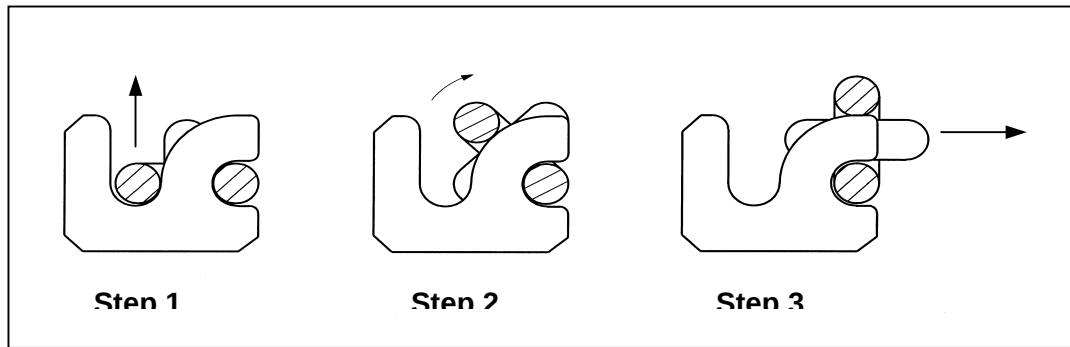

Fig. 4
3. Hook the chain link out of the attachment/scrapper bar (fig. 4).